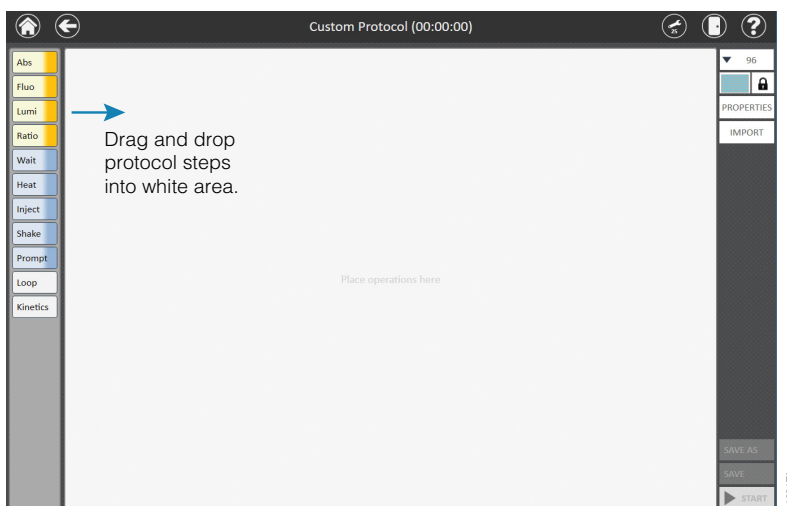

Figure 19. GloMax® Explorer 'New Protocol' screen showing drag and drop feature to create custom protocols.
3. Build your protocol by dragging and dropping protocol functions from the left panel onto the **Protocol Window** (Figures 19 and 20). Individual protocol functions are described in the Protocol Functions section below. Use the **Properties** button on the right to modify the name and description of the protocol.